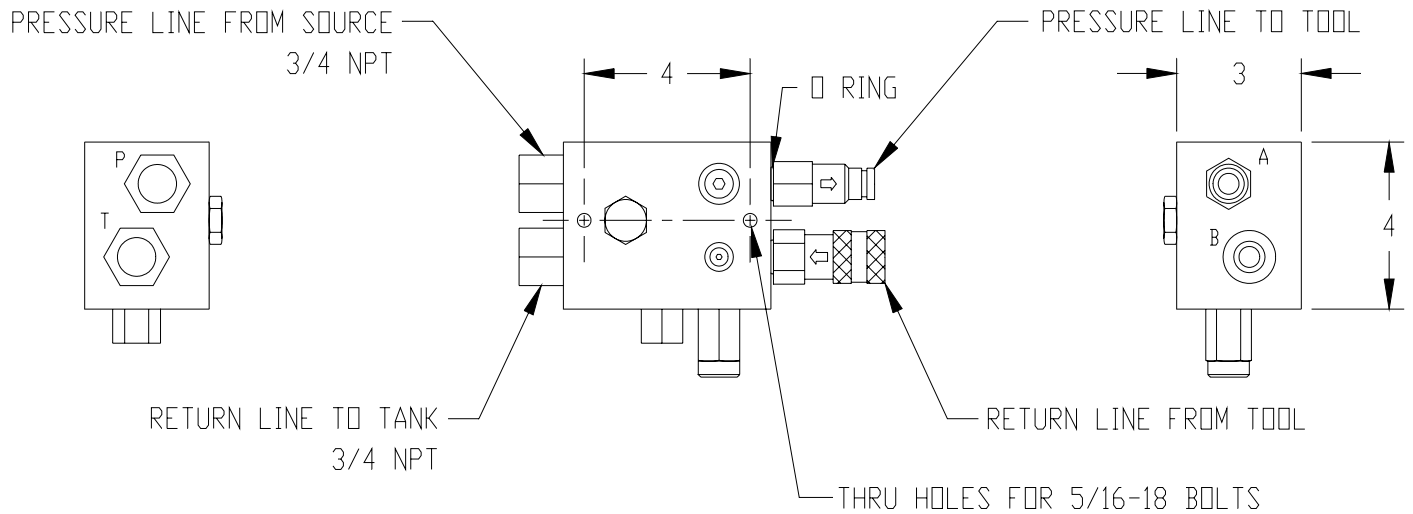

Figure 1
2. Refer to Figure 1 during the following procedures: